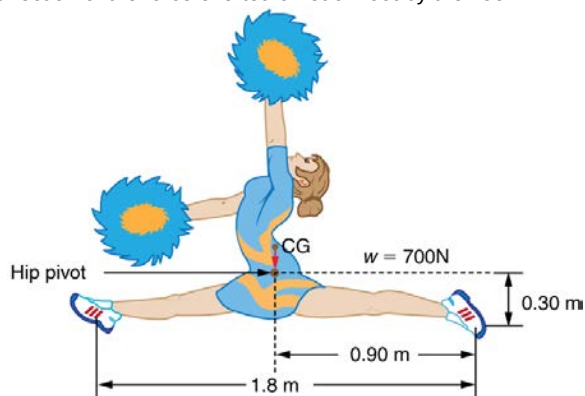

Figure 9.37 A gymnast performs full split. The center of gravity and the various distances from it are shown.
16. A gymnast is attempting to perform splits. From the information given in **Figure 9.37**, calculate the magnitude and direction of the force exerted on each foot by the floor.